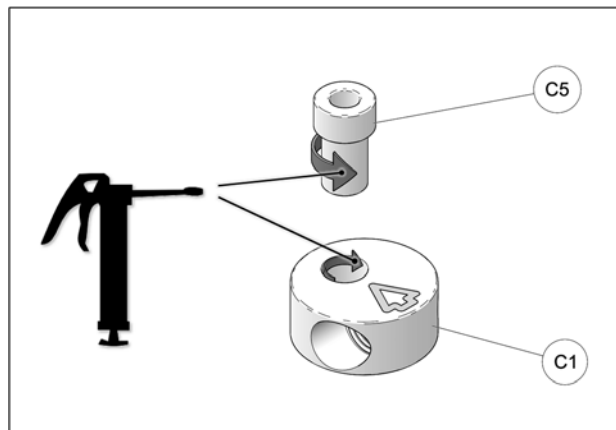

Fig. 18
11. At assembly, apply grease evenly all around step spacer bushing (C5) and in hole of aluminum disk (C1). See Fig. 18